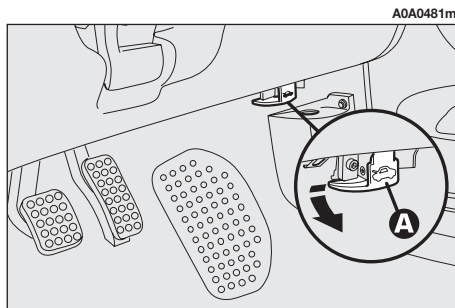

fig. 23
- pull the lever (**A-fig. 23**) until the bonnet clicks open.